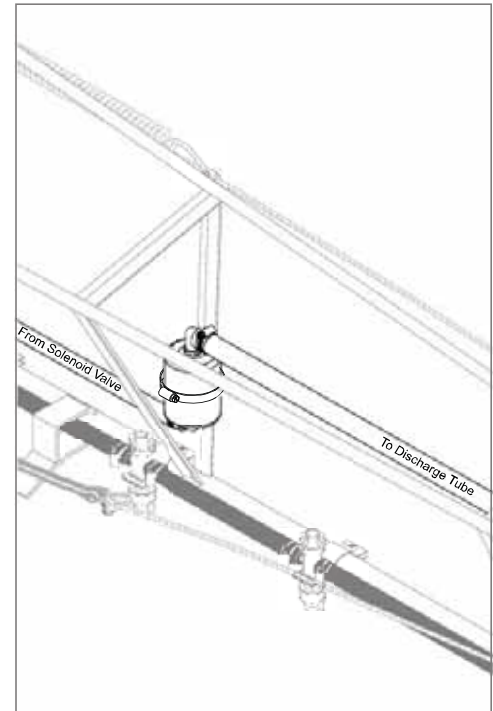

Figure 4:
1. The foam mixing chambers should be mounted in a vertical position and can be secured with the four large hose clamps included in the kit. See figure 4 on page 5. They should be located behind the sprayer or somewhere on the inner boom wing. The distance from each mixing chamber to each discharge tube must not exceed 25'. It is best to locate the mixing chambers where most of the 3/4" hose can be used. This keeps the 1/2" hose shorter and results in better performance of the marker.